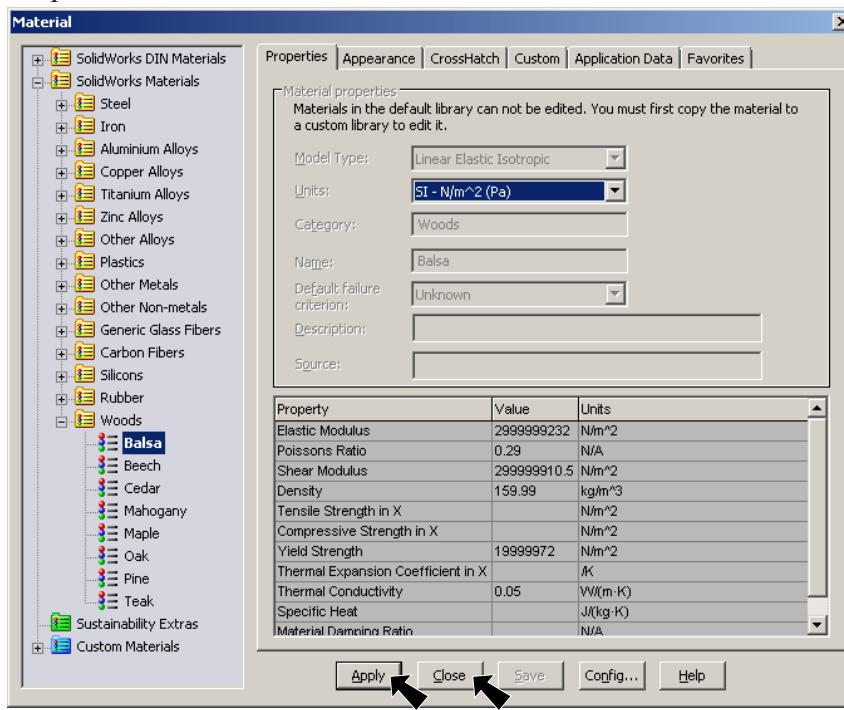
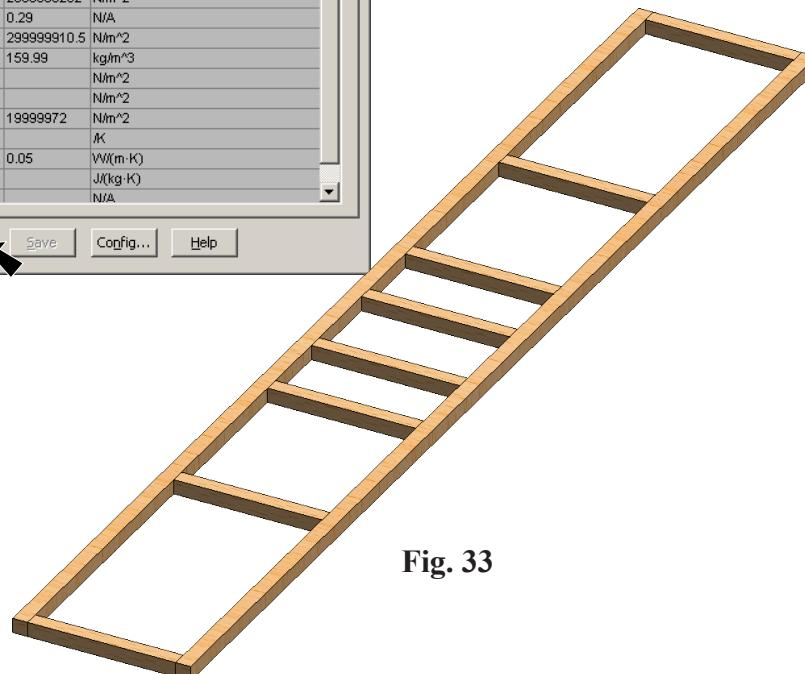

Fig. 32
Fig. 33
Step 2. Expand Woods (click the +) in the material tree and select Balsa, Fig. 32. Click Apply and Close, Fig. 33.